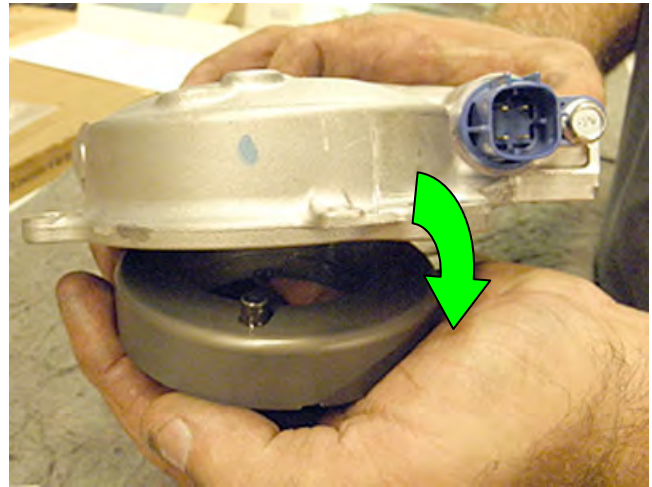

Figure 8
- b. Forcefully swing the IVT cover forward and allow the cover to bump against your other hand (Figure 8).